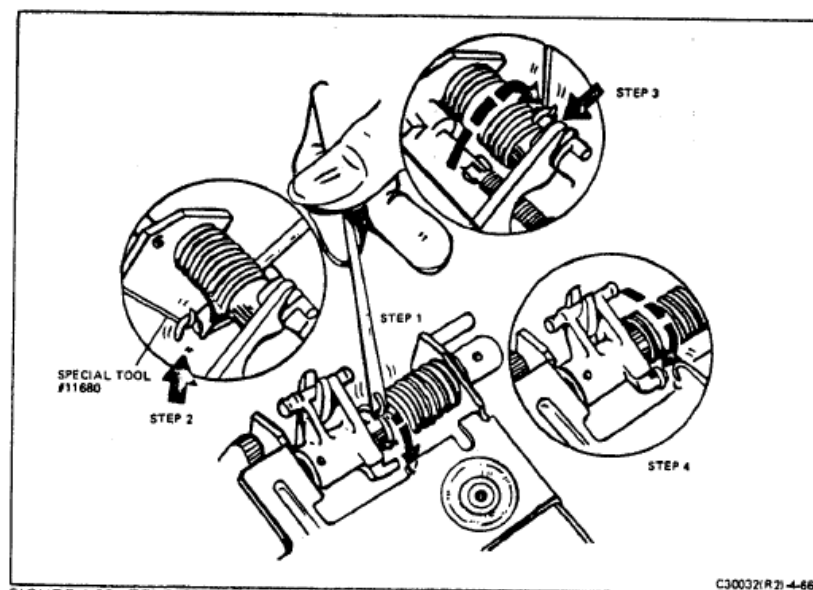

FIGURE 4-66 TENSIONING THE FRESNEL DRIVE SPRING
39. Engage the hook on the end of the Fresnel carrier drive spring with the notched blade of the modified jeweler's screwdriver (Figure 4-66, step 1).
40. Feed the hooked end of Special Tool #11680 under the spring, engaging the tool with the hooked end of the spring (Figure 4-66, step 2).
41. Pull the end of the spring completely around and temporarily secure it on the override spring mounting lug (Figure 4-66, step 3). Put aside the pulling tool.
42. Using the notched-blade screwdriver, push the end of the spring down, securing it on the bell crank retaining stud (Figure 4-66, step 4 and step 1).